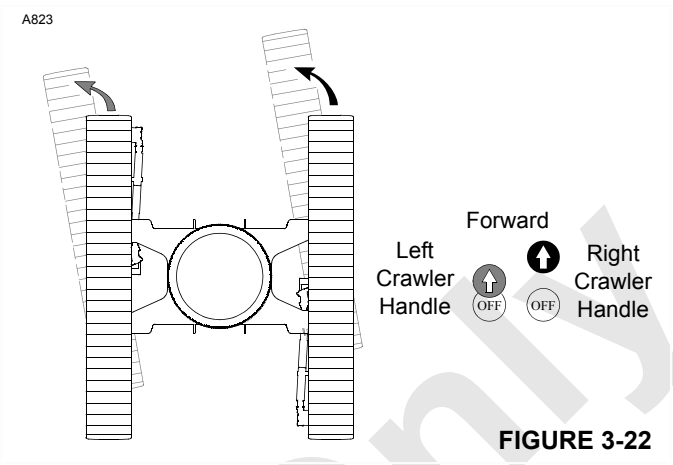
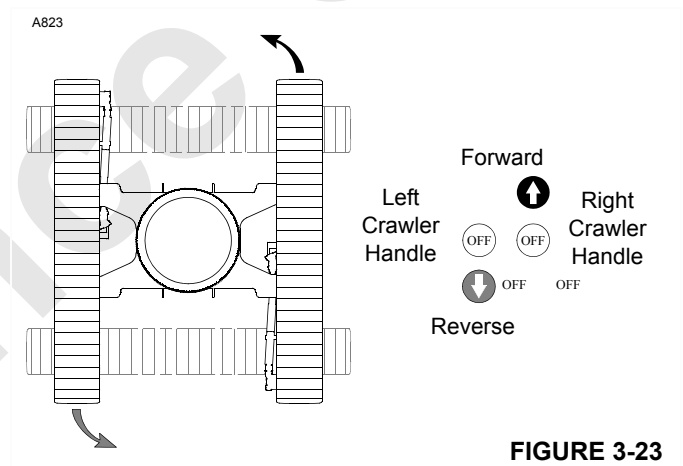

FIGURE 3-22
FIGURE 3-23
- Make gradual turns (Figure 3-22) or counter-rotate (Figure 3-23) whenever possible so both crawlers are always powered.
- 10. To make a gradual left turn (Figure 3-22), move both crawler handles to the front, moving the right crawler handle farther than the left crawler handle. The right crawler will turn faster than the left crawler.
- 12. To counter-rotate left (Figure 3-23), move the right crawler handle to the front and move the left crawler handle to the back.